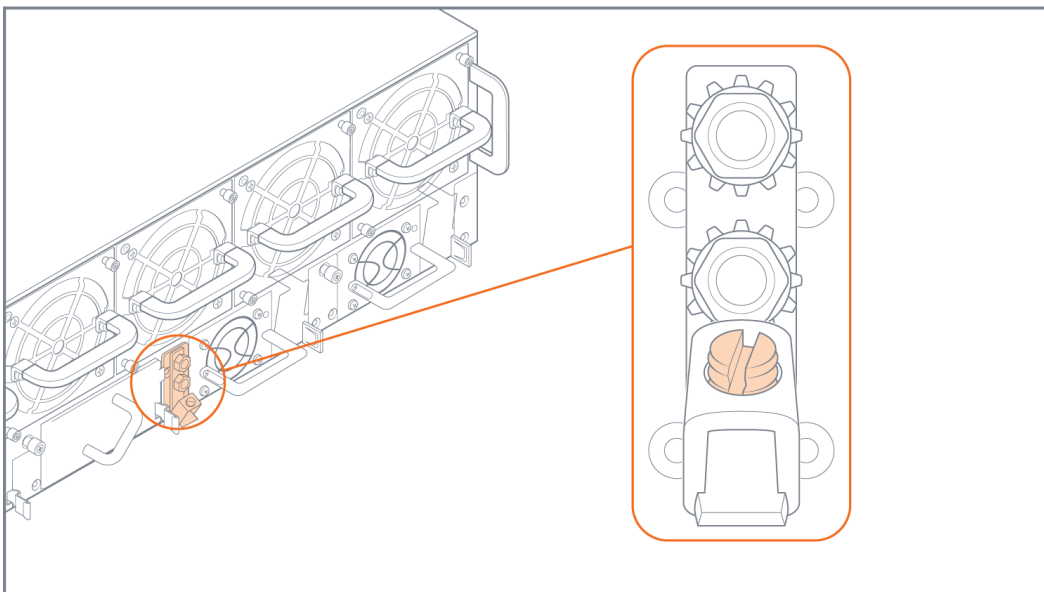
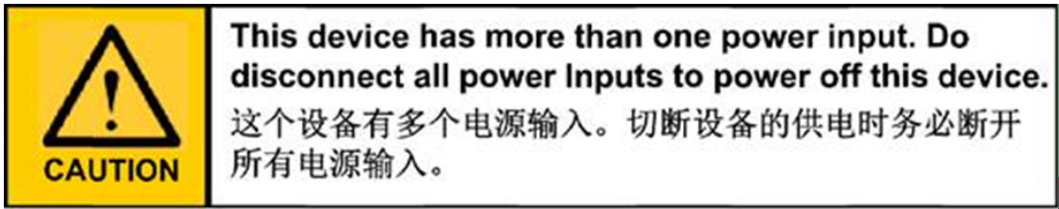

Figure 1: Grounding Lug on Rear of GigaVUE-HC3
Figure 3: Power Caution Label
1. Locate the grounding lug at the center rear of the chassis. Refer to Figure 1: Grounding Lug on Rear of GigaVUE-HC3 (or Figure 3: Rear View of the GigaVUE-HC3 Chassis) for the location on a GigaVUE-HC3 node.